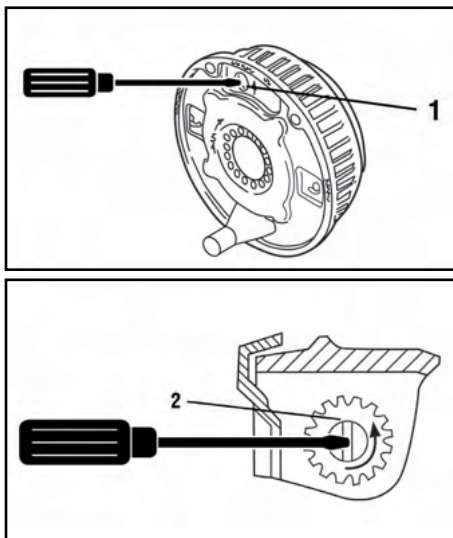

FIG 8.
2. Release the handbrake to the fully off position. If the handbrake will not go down the whole way because of the fairing or any other obstruction then the fairing must be cut away and/or the obstruction removed to achieve this desired position. It will not be possible to set up the braking system properly when the handbrake is not in the fully off position (fig. 8).
4. Remove the inner plastic bung from the backplate to expose the "star-wheel" adjuster access (fig. 8).
5. Rotating the road wheel in the forward direction (never backwards), adjust the star-wheel with a suitable screwdriver in the direction of the arrow embossed on the backplate until there is resistance in the wheel rotation (fig. 8).
6. Slacken off the star-wheel adjuster until the road wheel turns freely in the forward direction (fig. 8).
11. Remove the slack in the brake rod by adjusting the long ball nut to the rear of the balance bar, ensuring the overrun lever makes contact with the end of the towing shaft. Over-adjustment to the long ball nut (Fig.10) could induce movement of the inner brake cable, reducing the effective clearance of the brake shoes. If the overrun lever will not make contact, it is possible the two lock nuts, forward of the spring cylinder, are incorrectly adjusted. Loosen the nuts and adjust the brake rod as above (Fig. 8).